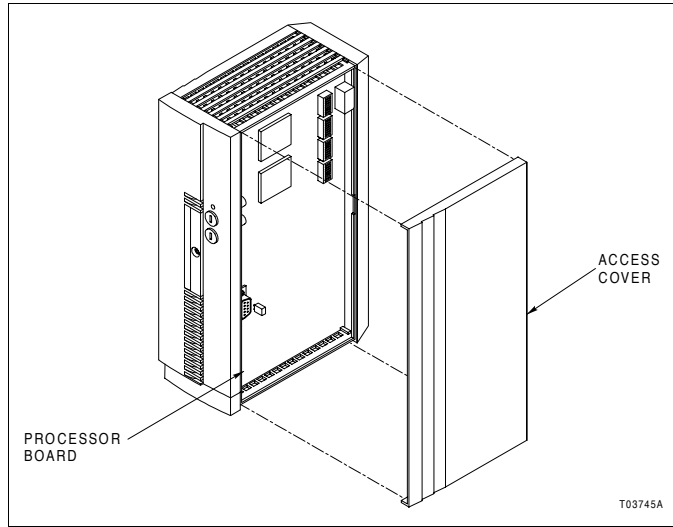

Figure PR5-2. SIM-100 Module Switch and Jumper Access
- 3. Remove the access cover from the right side of the module (Fig. PR5-2).